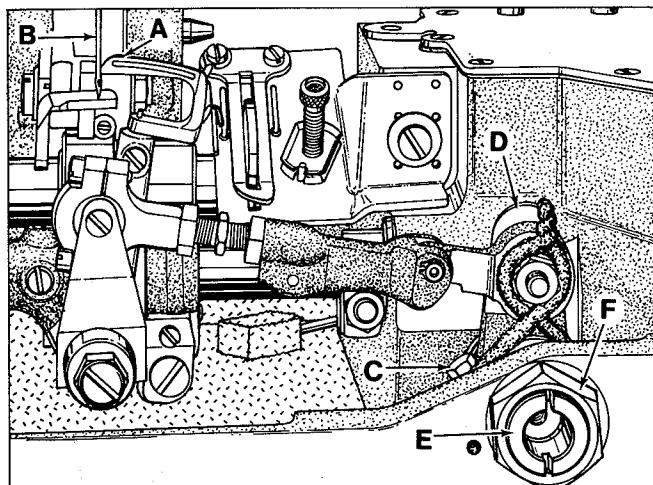

Fig. 3
Loosen screw (C, Fig. 3) in looper drive lever (D). A rod of .146-40 thd. or Union Special Screw No. 22870 A can be threaded into the looper drive lever rocker shaft through the center of thrust adjusting screw (E). Tap or pull slightly as required to position shaft for proper synchronization. Tighten screw (C) securely and remove rod or screw used to position shaft. Loosen lock nut (F) and TORQUE thrust adjusting screw (E) to 6 in. lbs. (7cm/kg); re-tighten lock nut (F) securely.